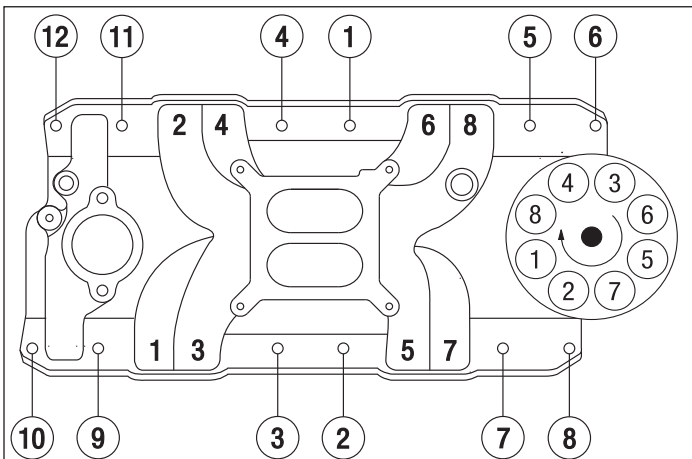

Figure 2 - Pre-1995 Manifold Bolt Torque Sequence
- 5a. Install the intake manifold and hold-down bolts. On applications with pre - 1995 cylinder heads, apply a small amount of silicone to the threads of the eight inner bolts (1,2,3,4,5,7,9 & 11 in **Figure 2**) to prevent oil seepage, as generally these are not blind holes in the cylinder head. Torque all of the manifold bolts in two steps by the sequence shown in **Figure 2** to 25 ft/lbs.